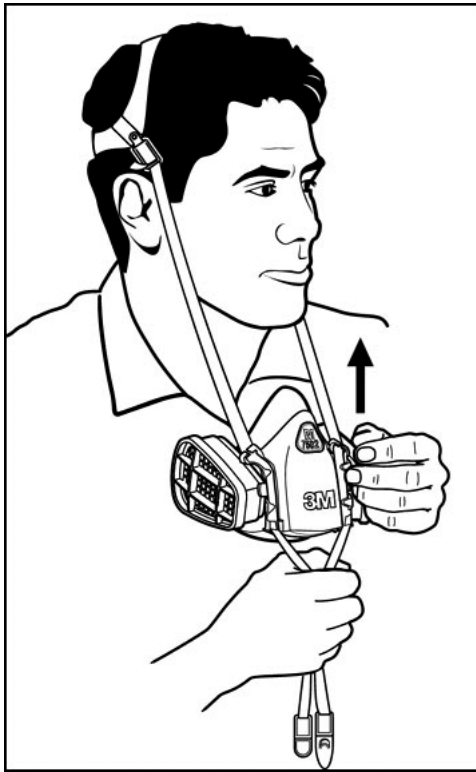

Fig. 12
2. While holding head harness strap ends with one hand, slide the facepiece up onto your face. (Fig. 12)